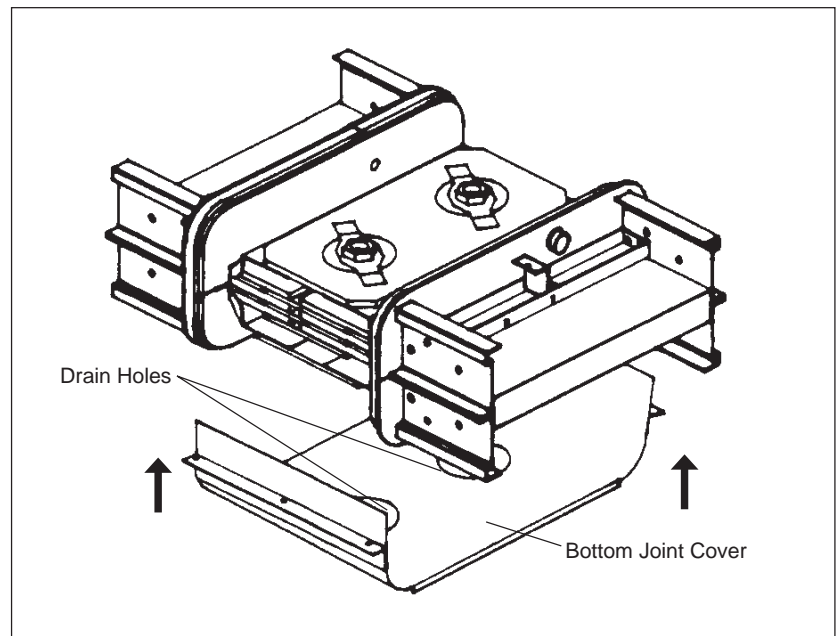

Figure 5
5. Install the bottom cover section (figure 5).